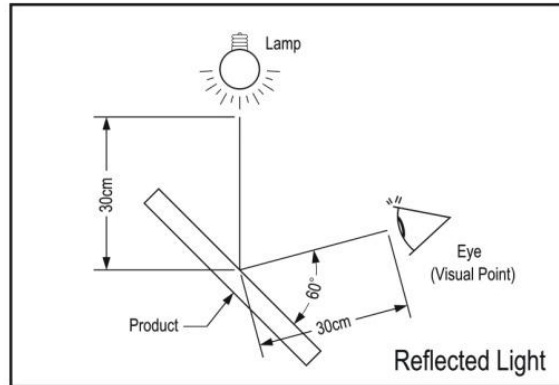

Fig11-1
(1) 18W(1000±500Lux) fluorescent luminant lamp is used for appearance inspection. Detail settings are shown in (Fig 11-1).
[(1) 檢測始用之燈光為 18W(1000±500Lux)白熾燈光，詳細的擺設方式，請參考圖(Fig11-1)]
(2) Minor impurities outside active area are acceptable unless their existence affect electrical functions.